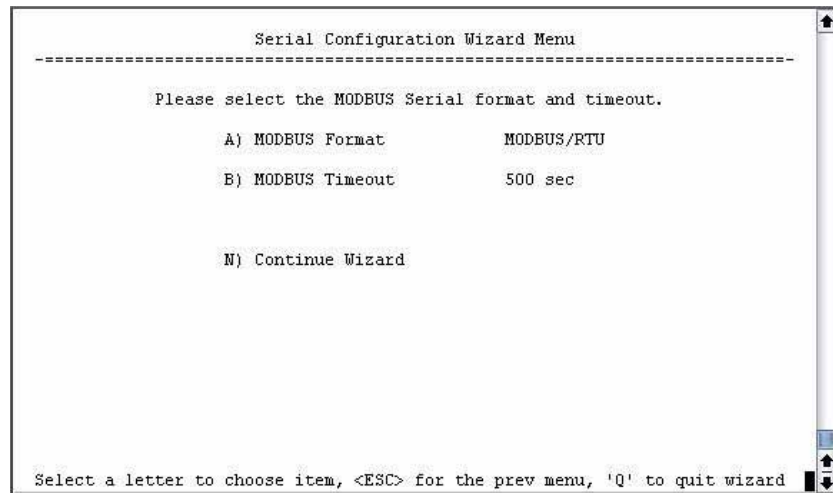

Figure 3-48. Select Data Baud Rate and Byte Format
5. When the next screen appears (Figure 3-48), press **A** to select the desired data baud rate and **B** to select the data byte format. Press **N** to continue.